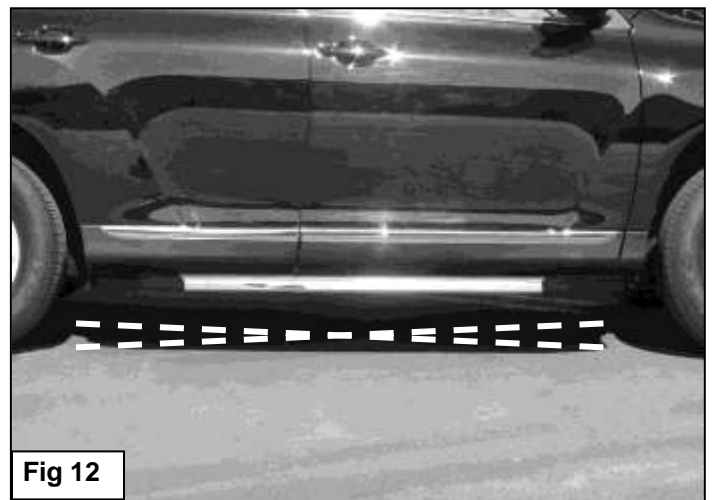

Fig 12
- a. Check to see if the Running Board is level to the car, front to rear, not level to the ground, **(Figure 12)**. To adjust, loosen the 10mm Bracket hardware and slide the Brackets up or down the lower body panel. Once level, tighten the 10mm Bolt Plate to Bracket hardware only. The Hex Bolt on the back of the Mounting Bracket for the Support Plate should be completely loose at this time.
- b. Next, check for level to the ground, side to side only. If the outside edge of the running board is tilted down, tighten the long 10mm x 50mm Hex Bolts on the back of the (2) Mounting Brackets evenly until the Running Board is level. If the Running Board is tilted up, loosen the Hex Bolt in the Support Plate a little until the Running Board is level. If the Support Plate is loose and the Board is still not level, loosen the Brackets completely and move them up or down on the body panel until the Board is properly adjusted. Once level, tighten all hardware.